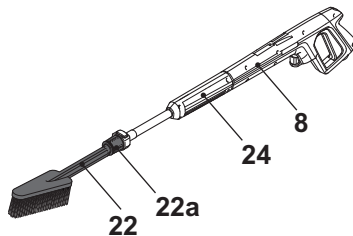

Fig. 11
1. Attach the extension lance (24) onto the spray gun (8) (Fig. 11).
2. Attach the rims brush (22) onto the extension lance.